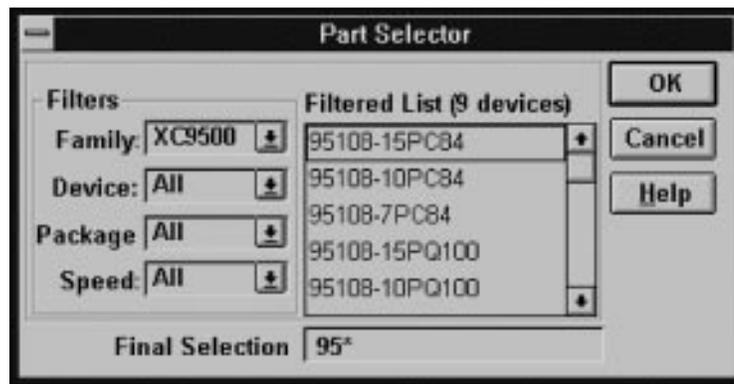

Figure 2-8 Part Selector
- From the Translate Options dialog window you can choose a design version number or accept the default version number. You can also specify whether the software is to read the device information contained in your source file or use the part you have selected. To select a Part click Select Part and you see the Part Selector window from which you can specify a target device as shown in Figure 2-8. Click OK when done.